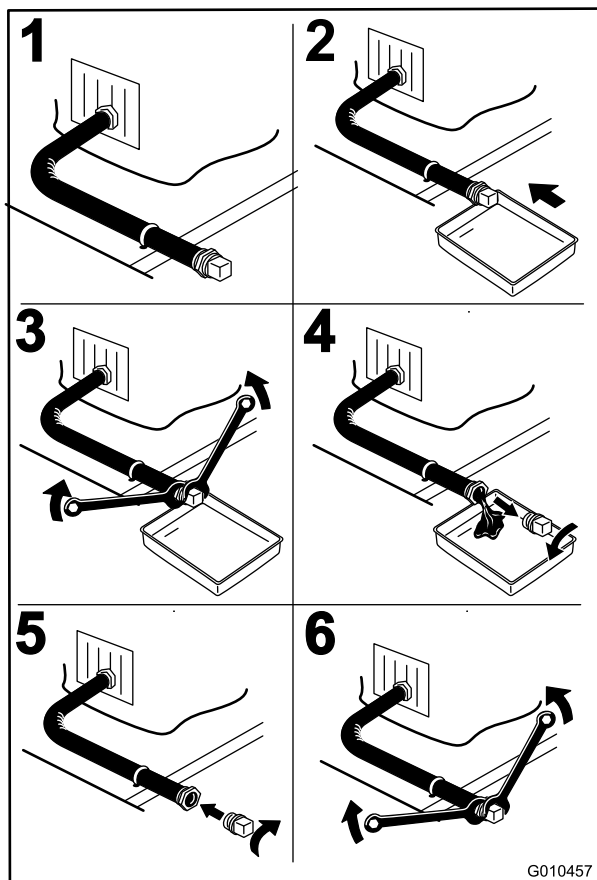

Figure 36
4. Stop the engine, remove the key, and wait for all moving parts to stop before leaving the operating position (Figure 36).